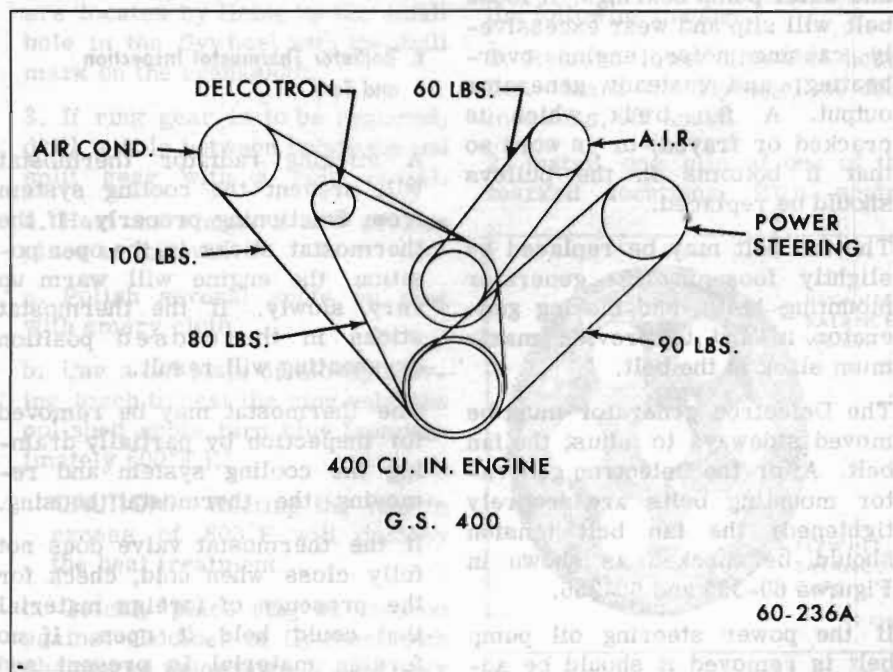

Figure 60-355—Engine Belt Tension Chart - 400 Cu. In. Engine
The Delcotron generator must be moved sideways to adjust the fan belt. After the Delcotron generator mounting bolts are securely tightened, the fan belt tension should be checked as shown in Figures 60-355 and 60-356.
If the power steering oil pump belt is removed it should be adjusted to tension specified, in Figures 60-355 and 60-356.
If the air conditioner compressor belt is disturbed it should be adjusted as specified, in Figures 60-355 and 60-356.
3. Install fan pulley or pulleys and fan blade, tighten attaching bolts securely. Install belts and adjust for proper tension. See Figures 60-355 and 60-356.